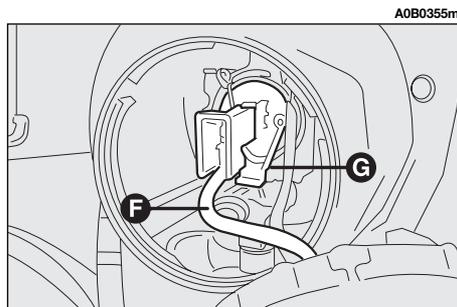

fig. 35
- Withdraw the supply cable terminal (**F-fig. 35**).
– Fit a new bulb making the tabs of the metallic part coincide with the grooves in the lamp lens and hook the bulb stopper (**G-fig. 35**).
– Refit the supply cable terminal (**F-fig. 35**).